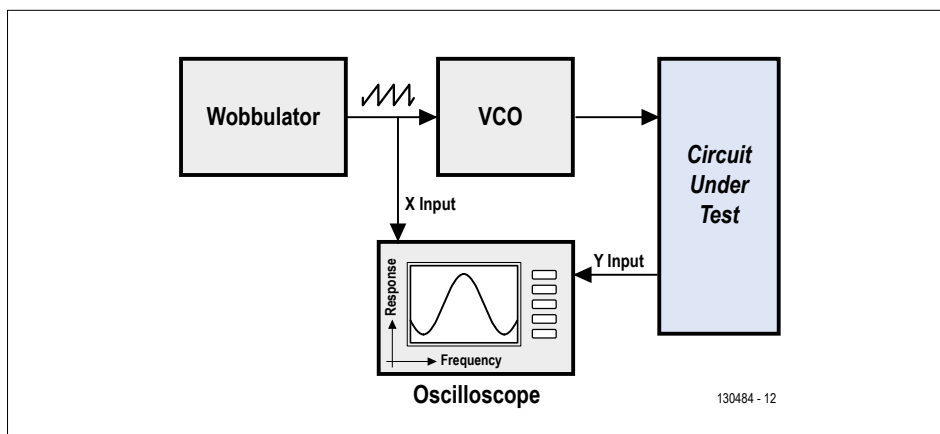

Figure 1. Basic operation of a wobbulator, also known as a sweep frequency generator.
As you can see in **Figure 1**, a wobbulator (or 'sweep generator') is a piece of test equipment which is used in conjunction with an oscilloscope to measure the frequency response characteristics of an (RF) circuit. It uses a "ramp" or "saw-tooth" function generator connected to a voltage controlled oscillator (VCO) to produce an output sweep over a defined frequency range. The response characteristics of the circuit under test — usually a filter or an amplifier — can then be displayed on an oscilloscope. A wobbulator is a useful tool for aligning the intermediate frequency (IF) stages of superheterodyne receivers, but can also be used to measure the frequency response characteristics of RF filters and other circuits.